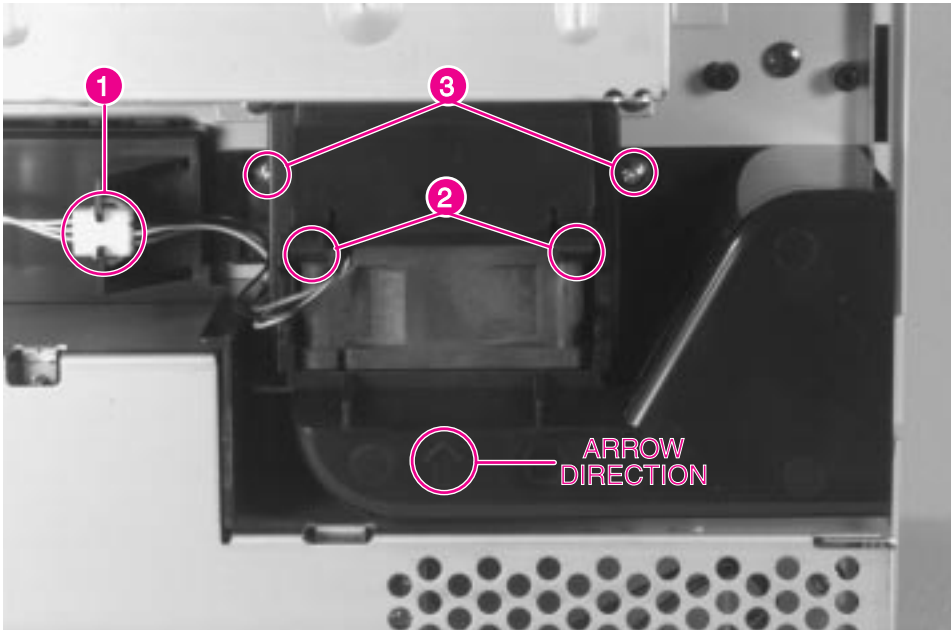

Figure 6-21 Fan 3, Formatter
- 2 Unplug the fan connector (figure 6-21, callout 1).
- 3 Release the 2 retainer clips (figure 6-21, callout 2), and slide the fan out of the housing assembly.
- 5 Remove 2 screws (figure 6-21, callout 3).